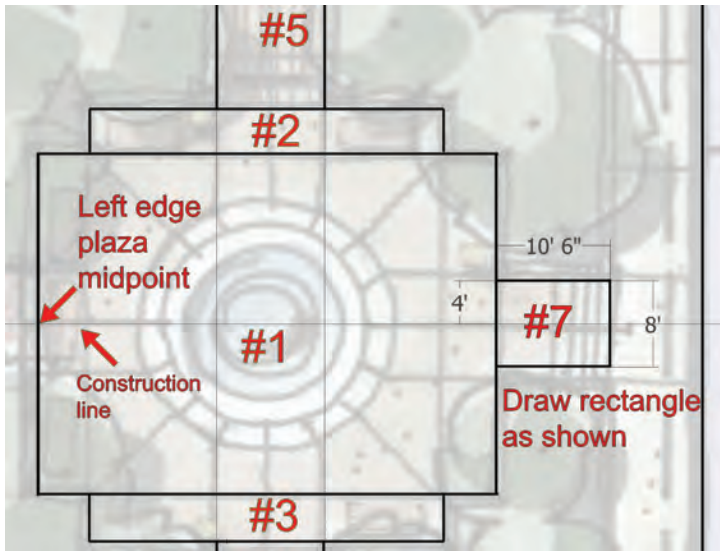

Fig. 7-13: When you draw Rectangle 7, align it with the left edge midpoint of the plaza.
6. To create Rectangle 7, draw an edge from the midpoint of the left edge of the plaza to the right. Four feet above this line, on the outside edge of Rectangle 1, draw a 10'-6" × 8' rectangle to define the entry (Fig. 7-13).